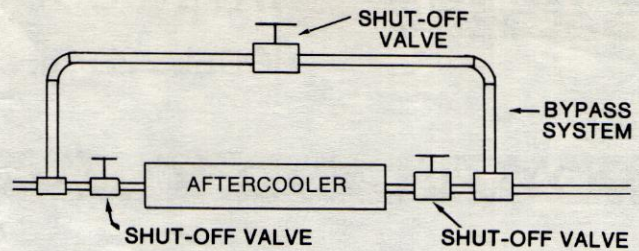

Figure 2 — Bypass System
3. Air can be piped from pump to aftercooler to tank or from pump to tank to aftercooler. It is always best to pipe in a bypass system should you wish to remove or circumvent the aftercooler. See Figure 2.